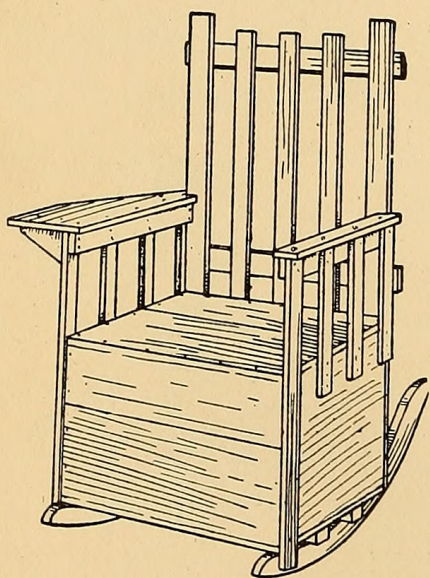

FIG. 191. — The Arm Rocker.
**The Arm Rocker** shown in Fig. 191 is easy to construct. The seat is made out of a box with the cover boards